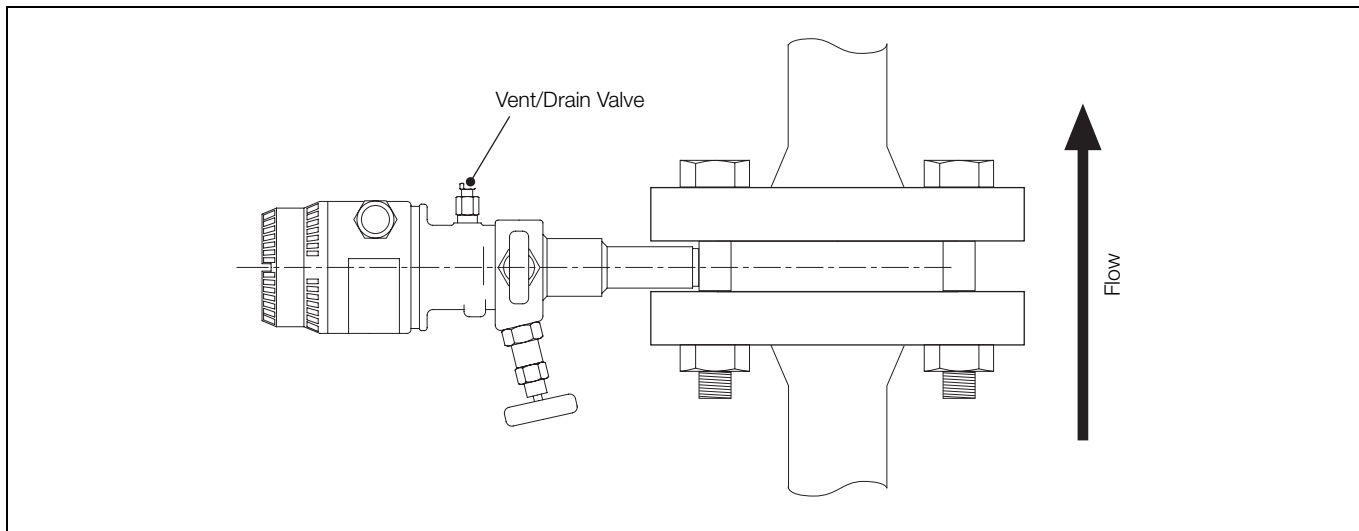

Fig. 2.4 Vertical Pipe Mounting – Liquid
- for vertical pipe mounting – liquid, refer to Fig. 2.4.